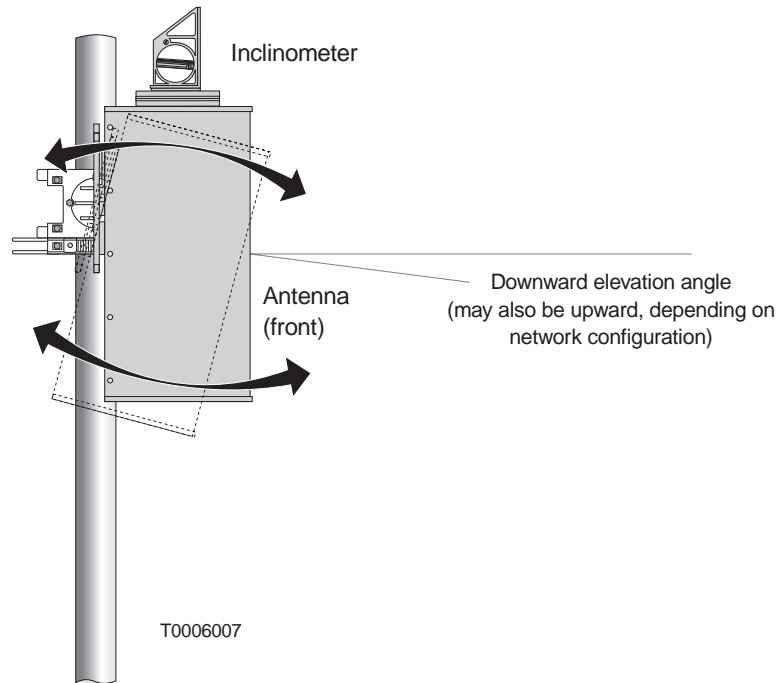

Figure 4-20 Inclinometer on top of the antenna
1. Place an inclinometer on the top surface of the antenna, as shown in figure 4-20.